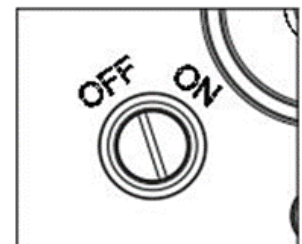

Fig. 10
- Turn slotted head selector to ON position to engage Ratchet Lock position or to OFF to disengage the Ratchet Lock. [See – Fig. 10]